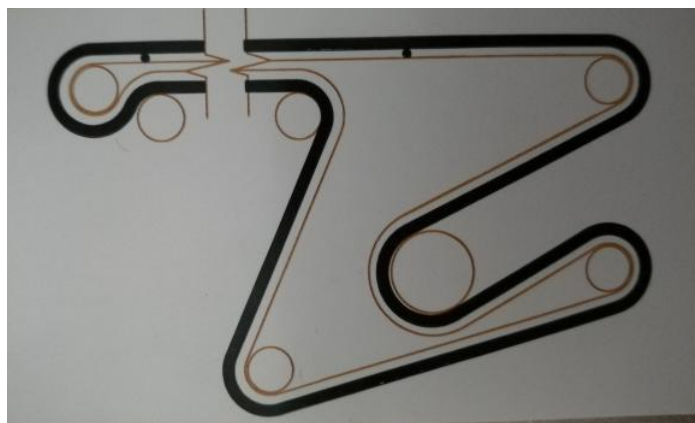

Figure 12 Conveyor belt routing
6. Assemble Conveyor Belt by refer to below routing. May refer to Figure 12.